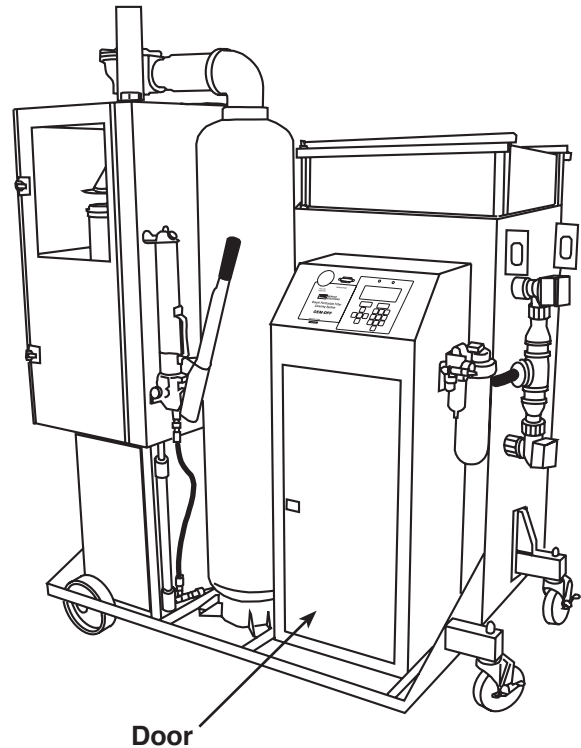

Figure 10
2. Open the door to the vacuum cleaner chamber located on the front of the DPF Cleaner. See Figure 10.